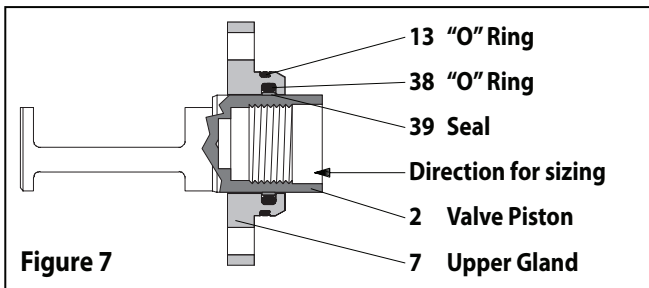

Figure 7
24. Grease and carefully push the (2) piston into the (7) upper gland to size the (39) seal and remove (see figure 7).